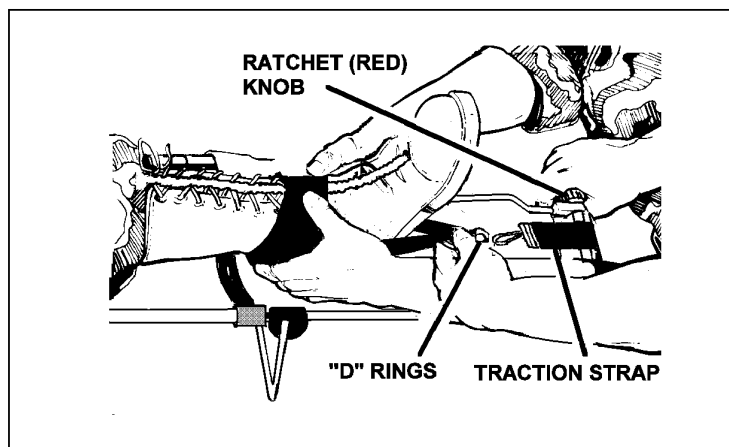

Figure 3-33
- 9. Apply mechanical traction. (See Figure 3-33.)